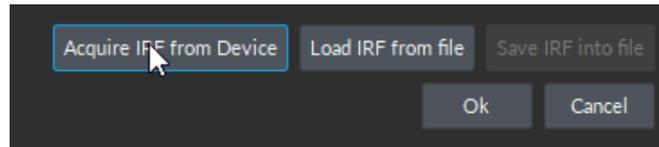

Figure 3.12: Acquire IRF from device
12. Select the *Acquire IRF from device* button (Fig. 3.12) to begin calibrating the system (Fig. 5.4).